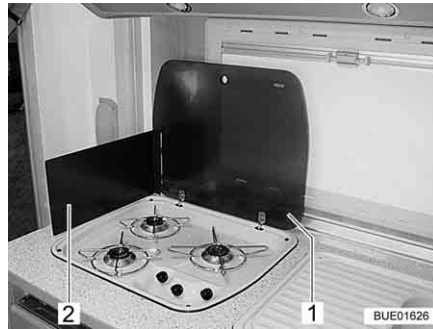

Fig. 206 Gas cooker
- Open the gas cooker lid (Fig. 206,1).
- Depending on the model, either fold out or set up the flame protection (Fig. 206,2).